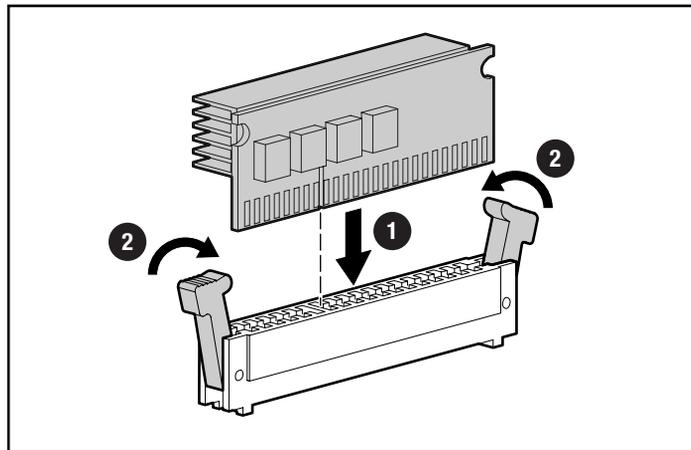

Figure 3-13. Installing a PPM
- d. Insert the PPM into the socket ❶. See Figure 3-13.
- e. Press down firmly on the PPM and close the latches ❷.